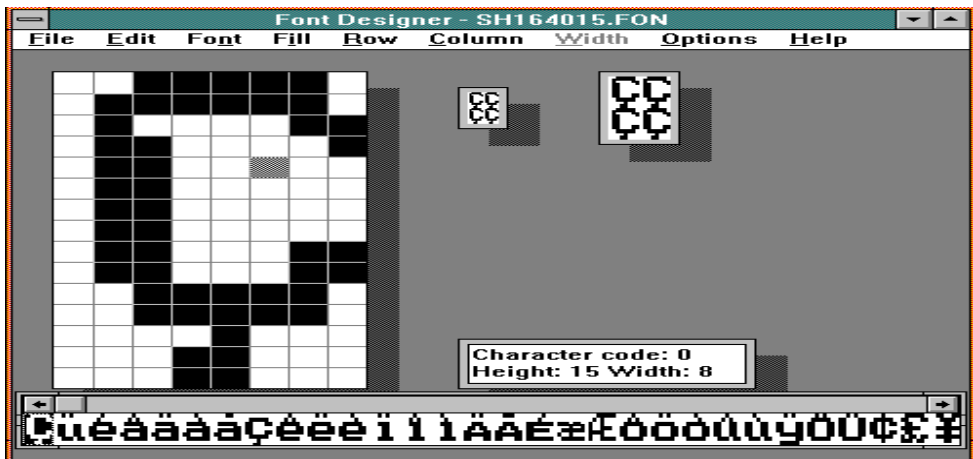

Figure 9-1
2. The font will appear on the display in the Font Editor as shown below in Figure 9-1.